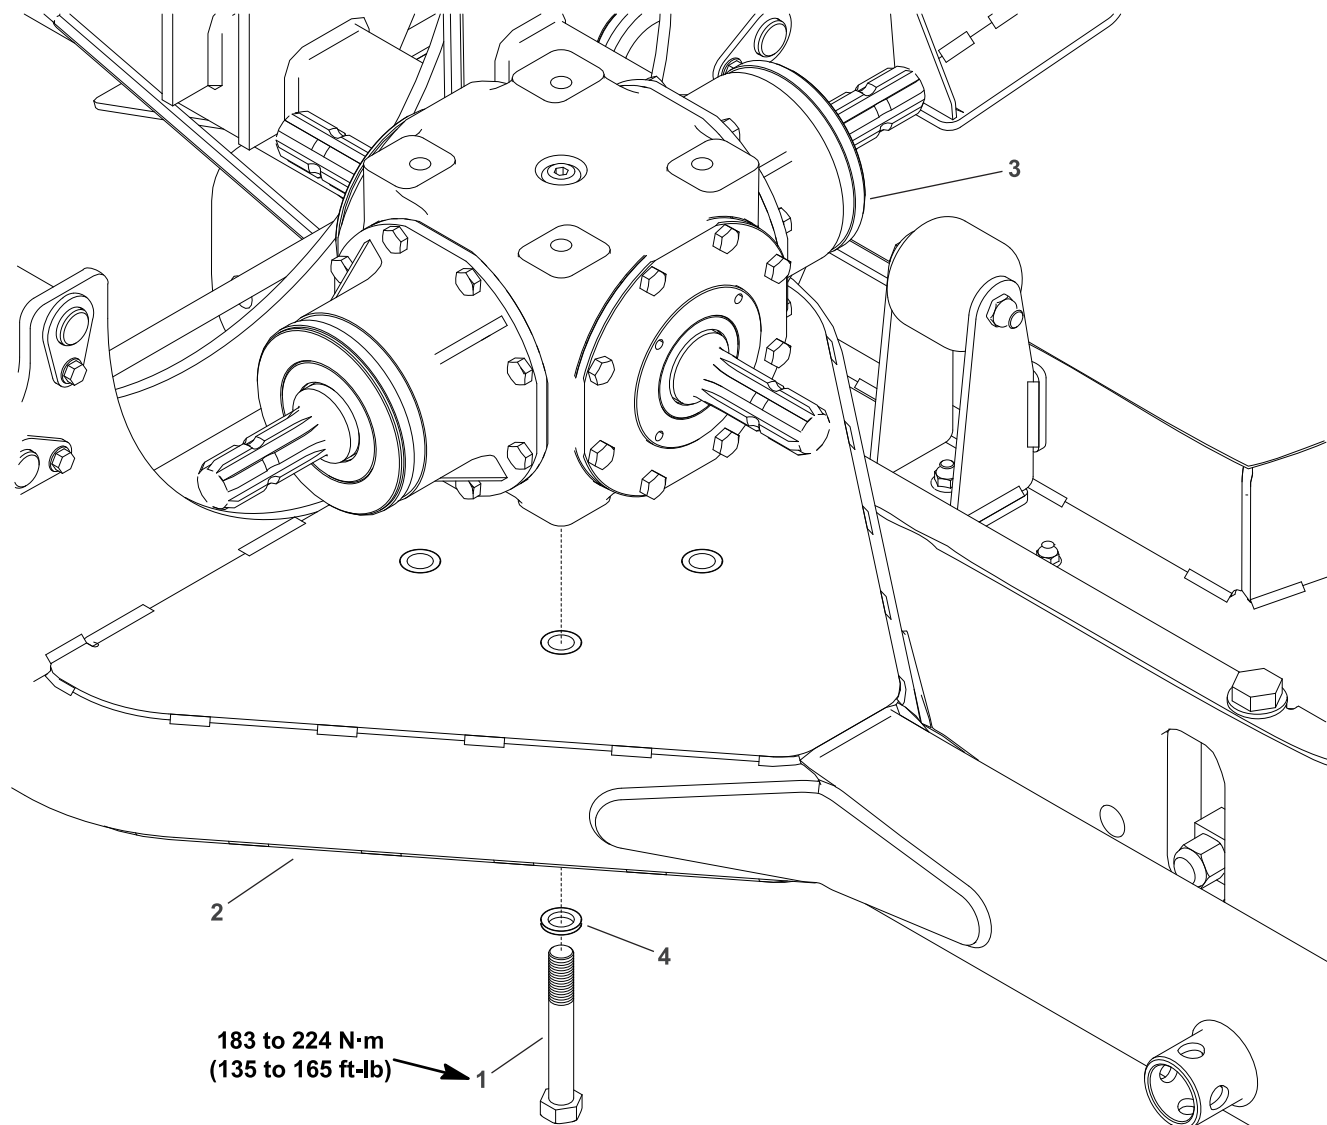
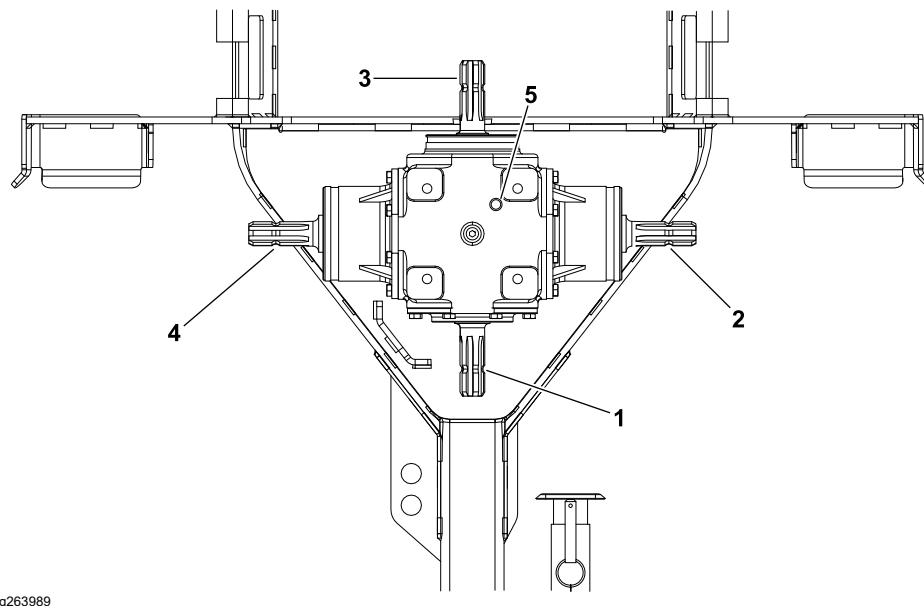

Figure 42
Figure 43
Note: Refer to Figure 42 during this procedure.
2. Position the center gear box assembly (item 2 in Figure 42) on to the frame (3); refer to Figure 43. Ensure that the dip stick is facing topside of the gear box.
3. Secure the center gear box assembly (2) to the frame (3) with the 4 bolts (1) and 4 washers (4). Alternately and evenly torque the bolts to **183 to 224 N·m (135 to 165 ft-lb)**.